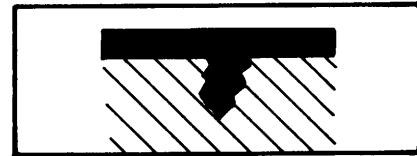

Fig. 2
- Apply fluid by spraying gun, hair brush or by dipping part into the directions for use (Fig. 2).